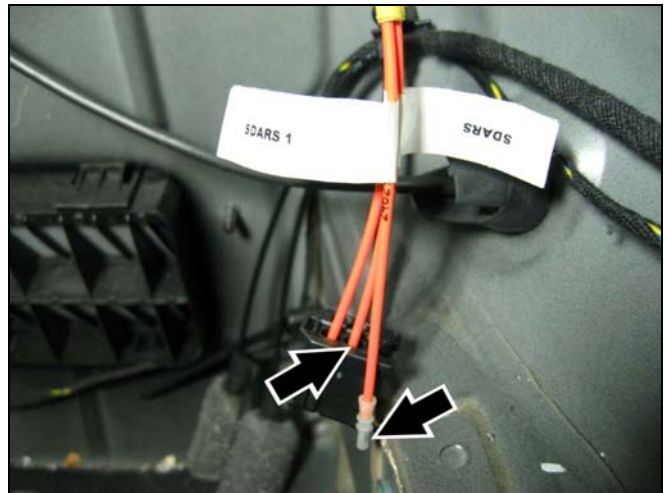

Figure 8
2. At the SDAR control module (Figure 8) in the right well of the trunk, configure the MOST ring according to Figure 51 (see below).